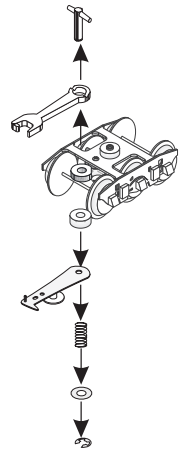

Figure 2: Removing the mechanical coupler and armature;
Next you need to remove the mechanical coupler from the trailing truck. Turn the truck over to reveal the bottom of the mechanical coupler and armature. You will see that the coupler and armature are sitting on a "T" Bar post that rides in the truck frame. The coupler, armature and T-Bar are all held in place by a spring and "C" Clip. The "C" Clip connects to the post and must be removed to allow the spring, armature and coupler to slide off the T-Bar. (See Figure 2) Use a small needle-point pair of pliers to grasp the "C" Clip and pull it away from the T-Bar post. Be careful to gently pull the "C" Clip off the post, keeping you
3. Remove the existing ProtoCoupler® on the Big Boy tender by following the instructions in Figure 2 utilizing the same removal steps as on the auxiliary tender.